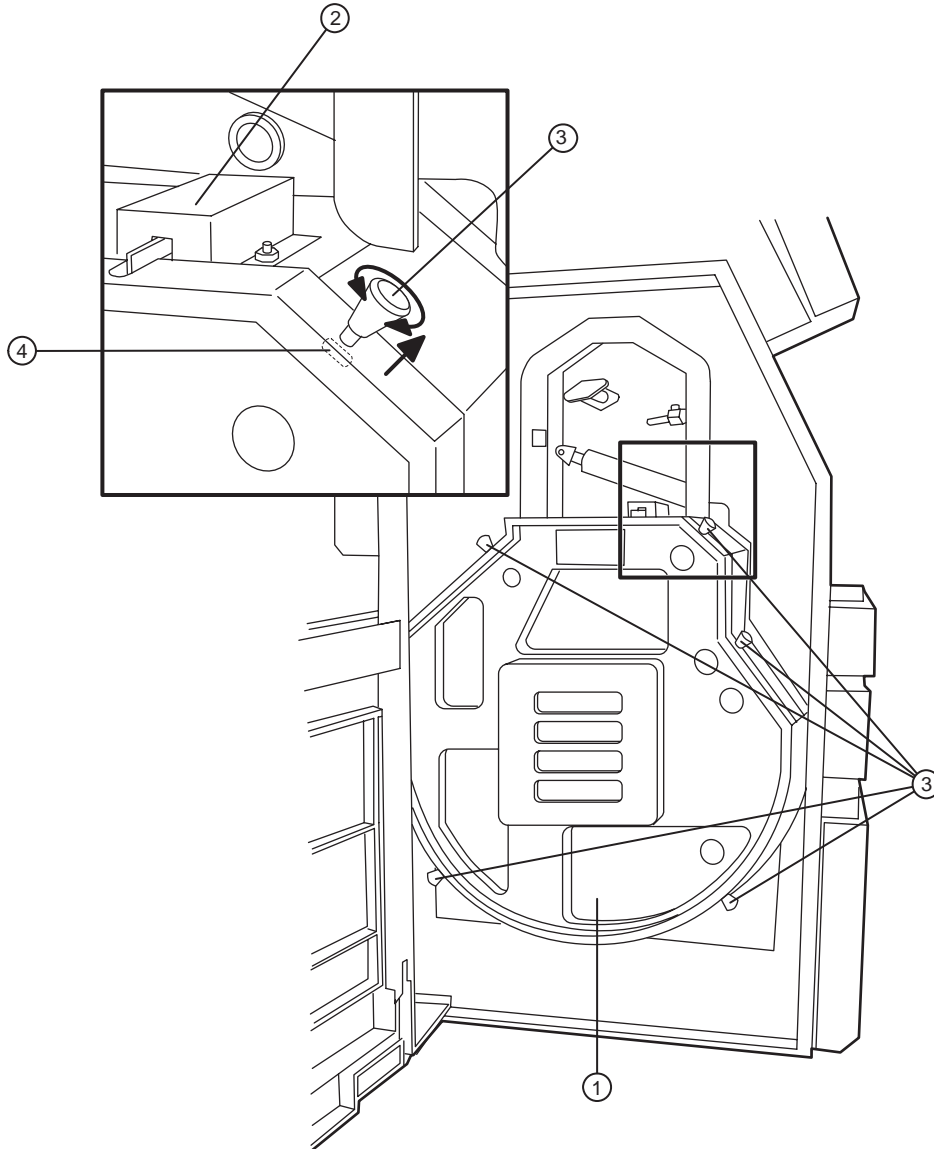

Figure 4-31 Light shield.
3. Pull each of the five (5) latch knobs out and twist them so that they rest outside of the lock slot. Refer to Figure 4-31.